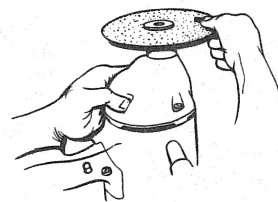

Fig. 1
3. With one hand, depress the spindle lock button and hold the button down. Grasp the pads and sanding disc with the other hand and turn by hand to tighten the entire assembly (fig. 1).